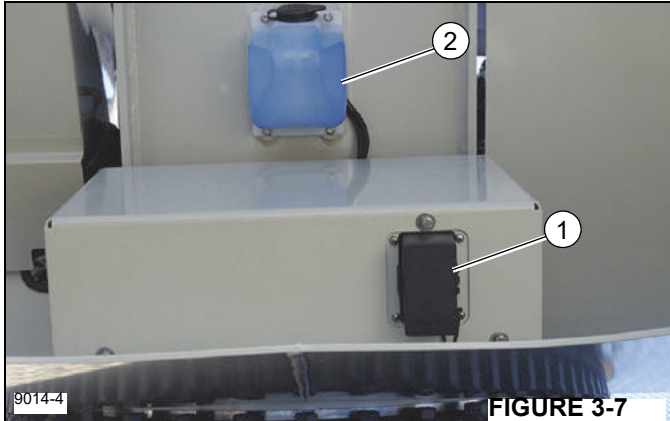

FIGURE 3-7
Micro relay fuse block 4 (1, Figure 3-7) is located at the rear of the crane, below the counterweight and windshield wash reservoir (2) and is installed with the radio remote option.